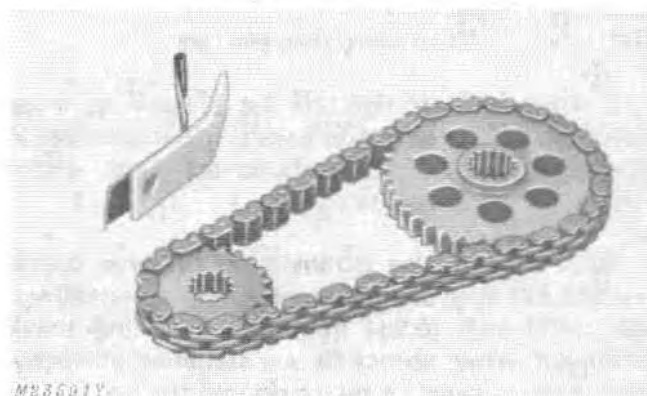

Fig. 2-Chain, Sprockets and Tensioner
1. Inspect drive chain for wear. Replace chain if worn or broken, Fig. 2.